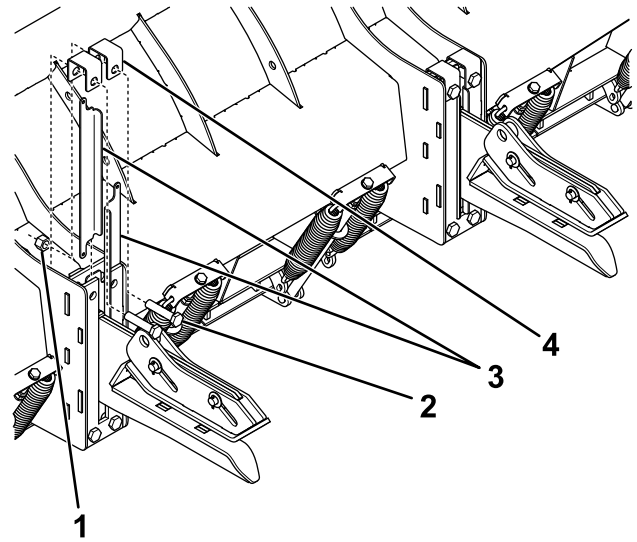

Figure 8
4. With the back shim and attachment fork pushed to the back, slide the side shims between the attachment fork and the front hitch plate (Figure 8).
6. Secure the top caps to the hitch plates and shims using 2 bolts (1 inch) and locknuts (Figure 8).